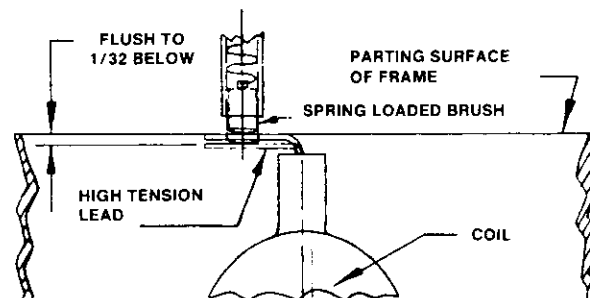

Figure 7.7
- Position the coil high tension lead flush to 1/32 inch below the parting surface of the magneto frame. (See Figure 7.7).